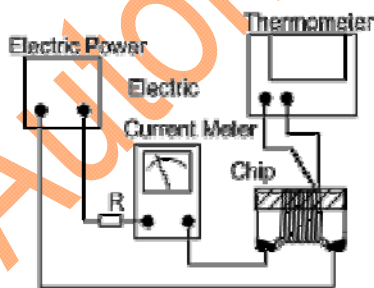

Fig. 6.3.4-1
- Definition of Rated Current (I_{r}): I_{r} is direct electric current as chip surface temperature rose just 40°C against chip initial surface temperature (T_{a}) (see **Fig. 6.3.4-2**).